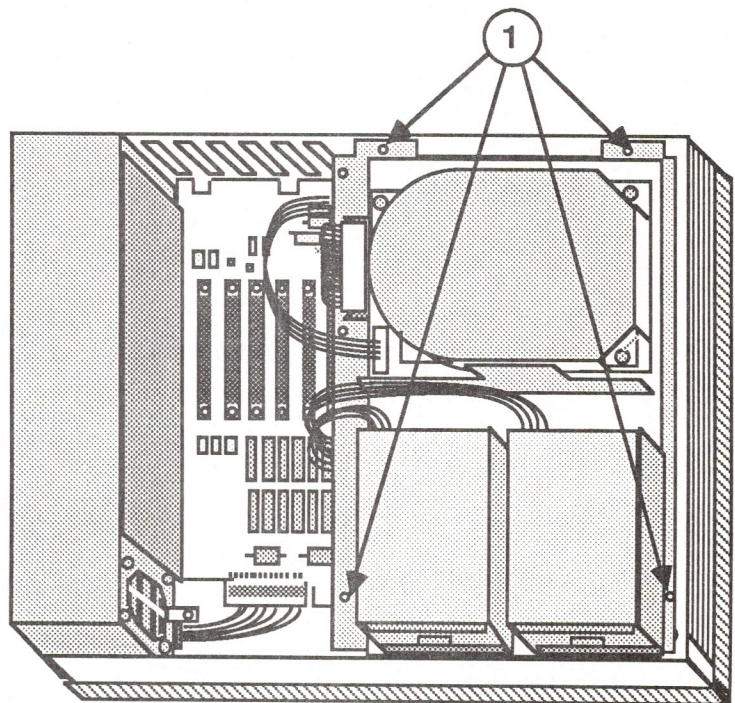

FIGURE 4
5. Replace the four Phillips screws that hold the drive mount in place (Figure 4, #1).